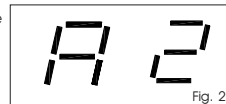

Fig. 2
**When parameters are being displayed and adjusted,** the display shows the selected parameter on the left, and the relevant value on the right. Fig. 2 shows a display example of parameter "A" at value "2".